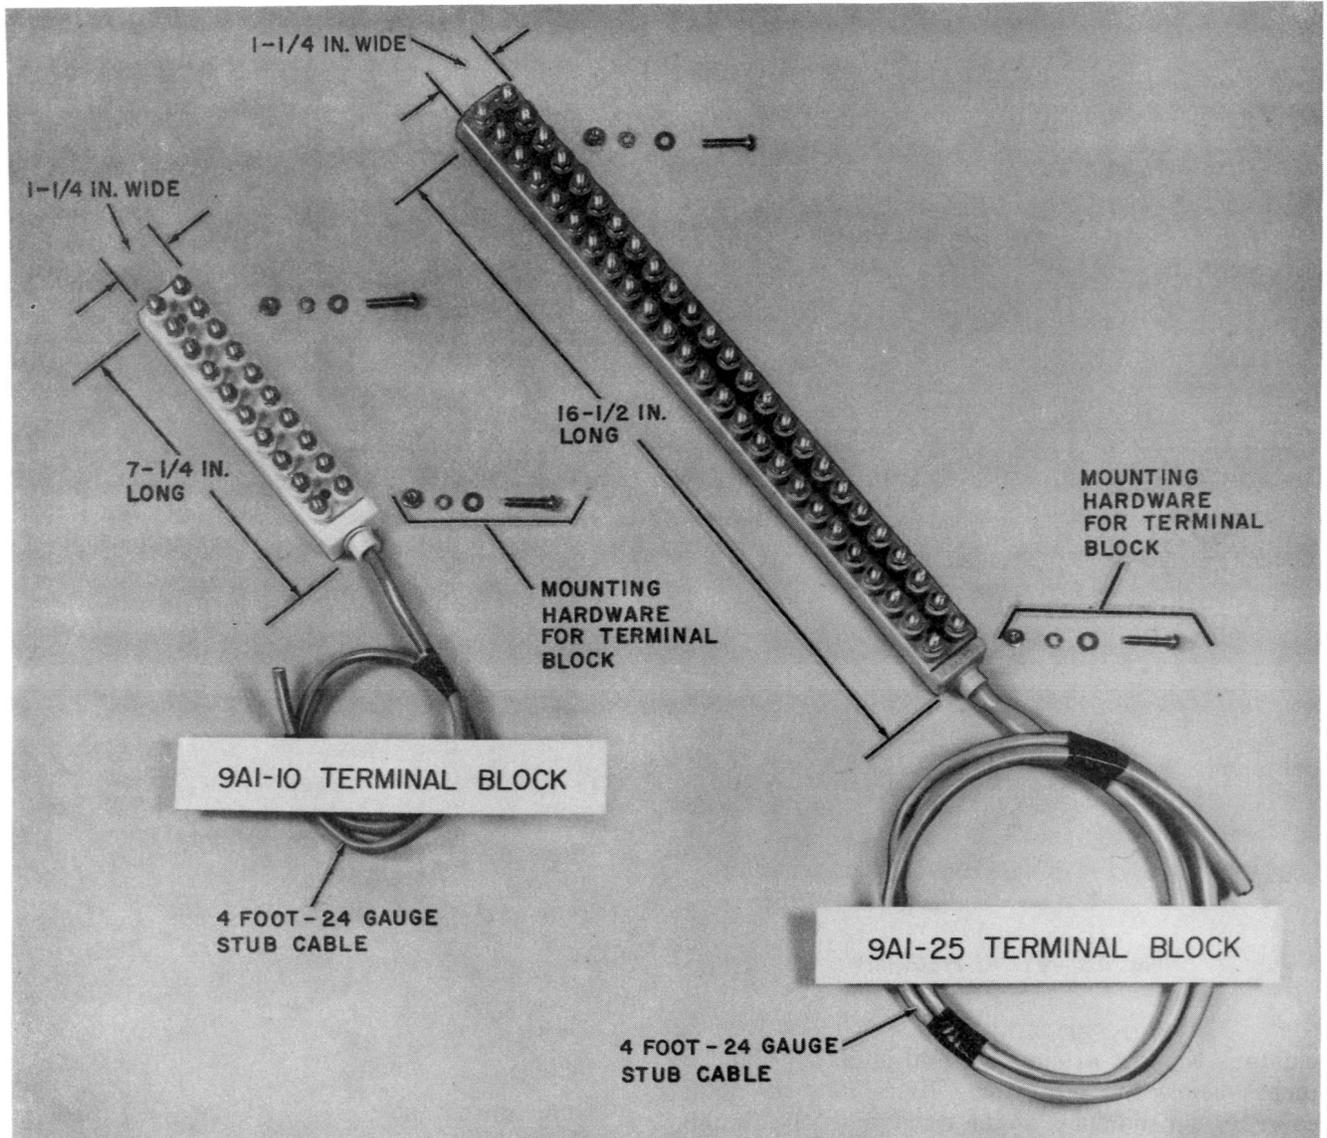

Fig. 12—9A1-Type Terminal Block
3.14 The 9A1A-5 terminal block (Fig. 12) consists of a nonconductive base containing five pairs of binding posts, ten 2A1A protector units, and replaces the 6A3A (MD) terminal block. One 24-gauge insulated lead is connected internally to each binding post. The 9A1A-5 block provides facilities for protecting subscriber stations and terminating wire service. It is intended for mounting in PC-type cable closures.